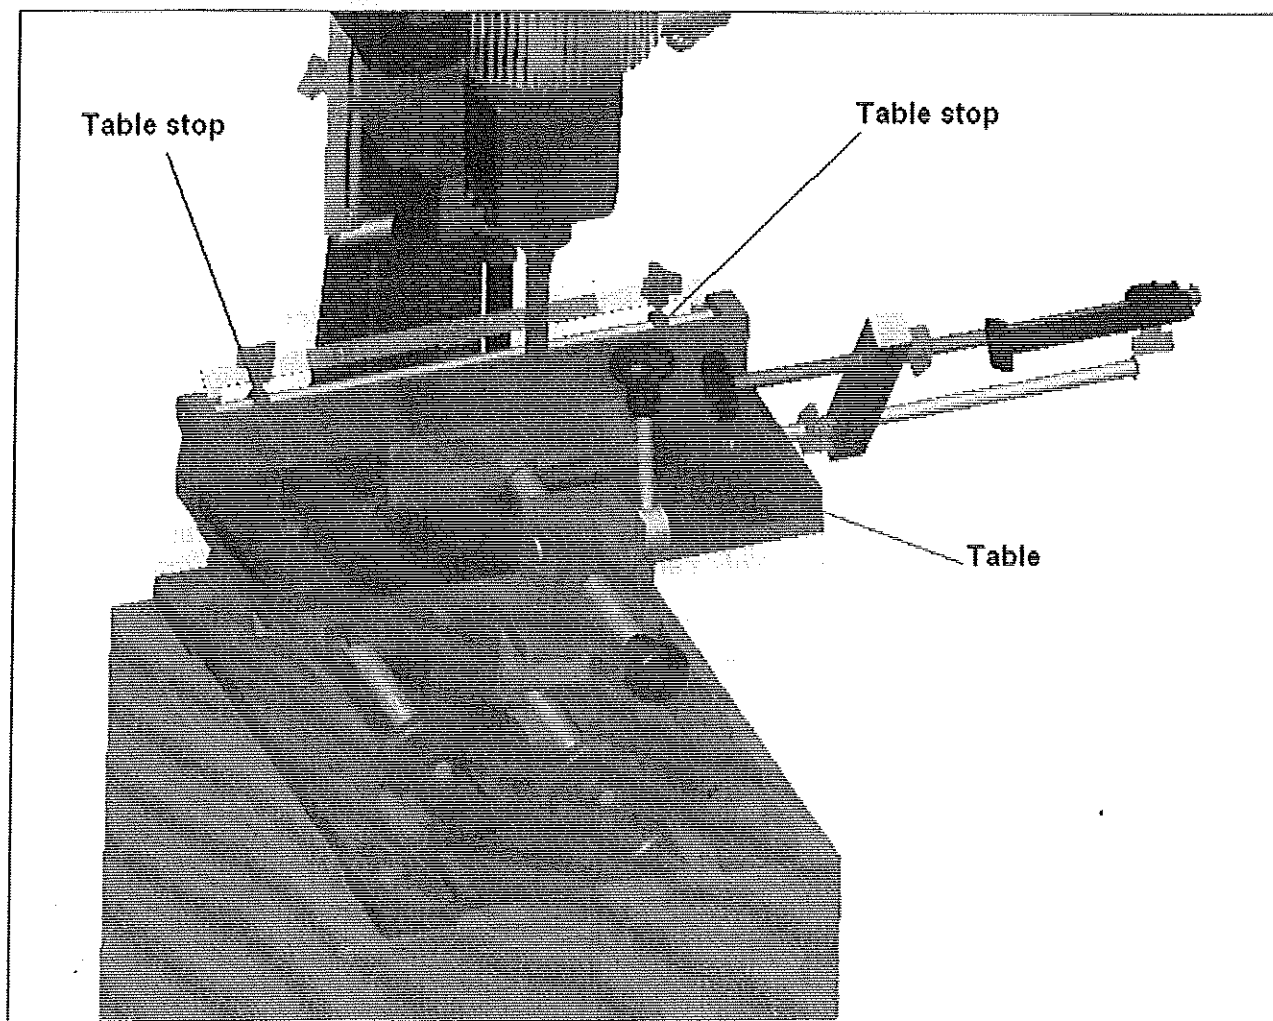

FIGURE 5
3. Adjust the table stops, Figure 5, according to the length of cut required, then tighten the thumb screws.